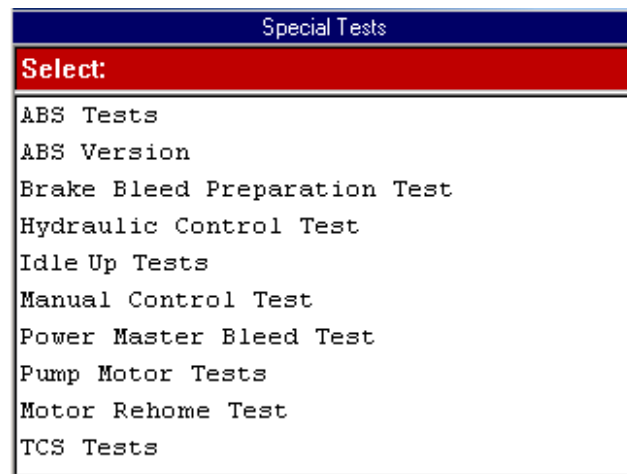

Figure 10.2: Special Tests Menu Screen
- 2 From the Diagnostic Menu screen, select **Special Tests**. This displays the Special Tests menu screen (figure 10.2).